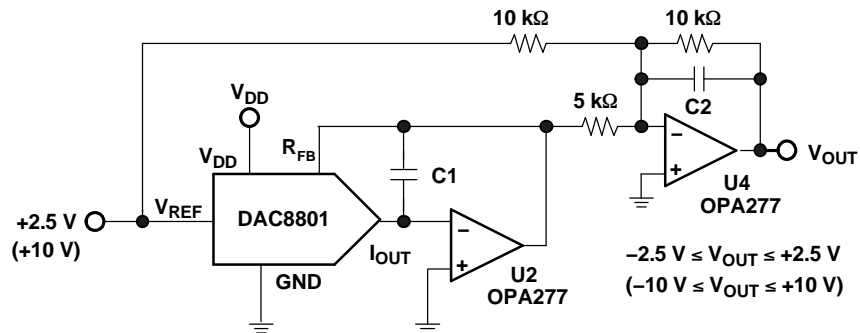

Figure 22. Bipolar Output Circuit
Some applications require full 4-quadrant multiplying capabilities or bipolar output swing. As shown in Figure 22, external op amp U4 is added as a summing amp and has a gain of 2X that widens the output span to 5 V. A 4-quadrant multiplying circuit is implemented by using a 2.5-V offset of the reference voltage to bias U4. According to the circuit transfer equation given in Equation 2, input data (D) from code 0 to full scale produces output voltages of  $V_{OUT} = -2.5$  V to  $V_{OUT} = +2.5$  V.